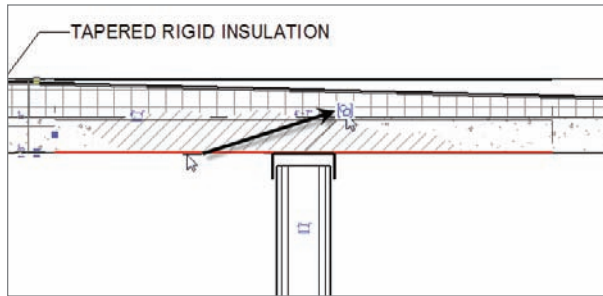

FIGURE 12.76 Excluding an element from the group
1. Hover your cursor over the thick line representing the bottom of the floor in the group, as shown in Figure 12.76.
3. Pick the line, as shown in Figure 12.76.